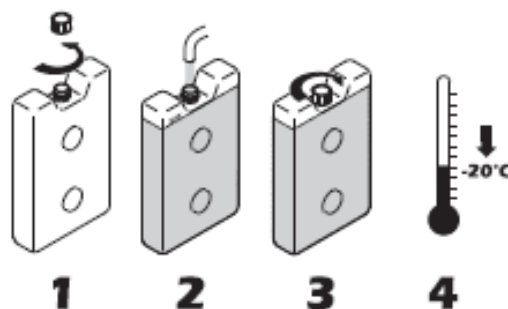

Figure 1 - preparing waterpacks
- Fill the waterpacks with cold, clean water according to the figure 1. The waterpacks must be filled in an upright position. The fill level must not exceed the indication level. The remaining air space allows the expansion of the filled water that occurs during crystallisation, when liquid transforms into a solid state.